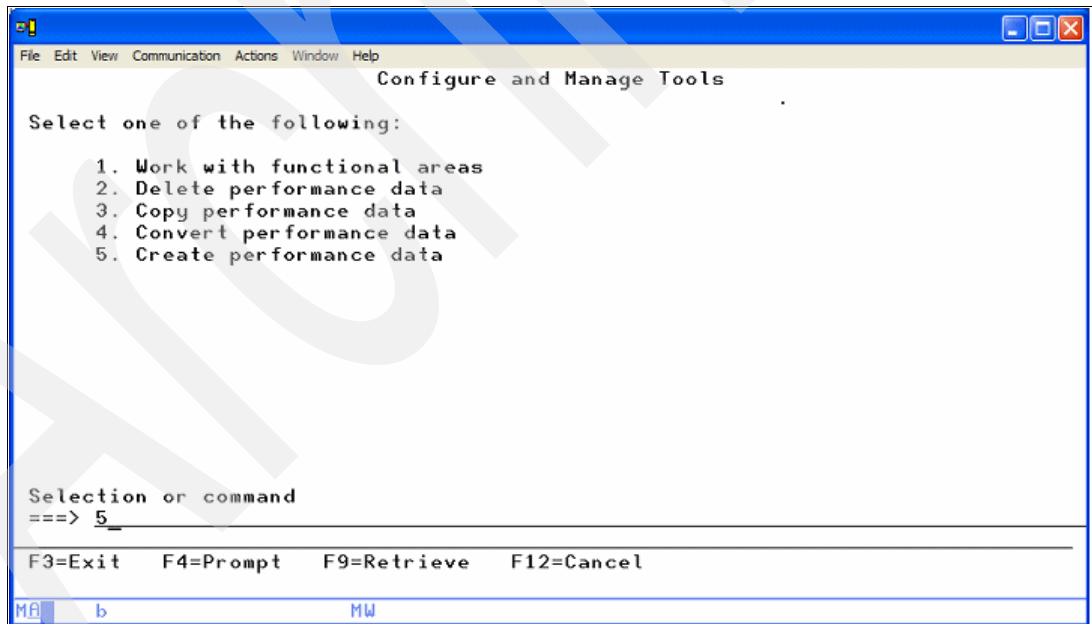

Figure A-16 Configure and Manage Tools panel
6. On the Configure and Manage Tools panel (Figure A-16), select **5. Create performance data**.